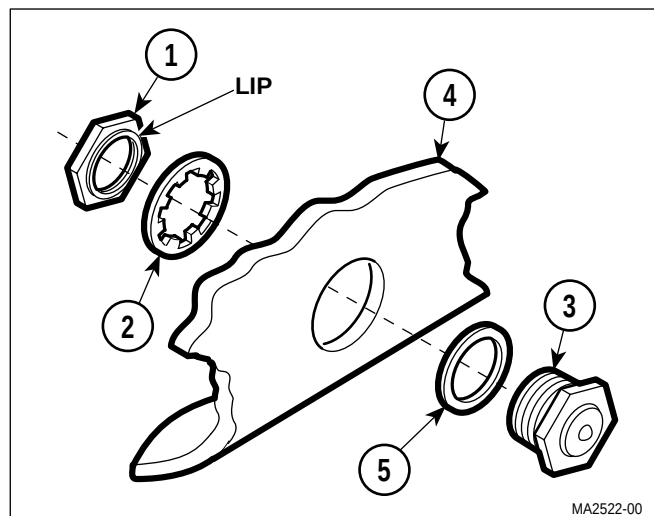

Figure 4-10. Diaphragm Cup Removal / Installation
- (1) Remove cover assembly (Refer to para 4.2).
- (2) Remove wire rack and trays (Refer to para 4.17).
- (3) Remove temperature regulator relay (Refer to para 4.8).
- (4) Remove nut (1, Figure 4-10), lockwasher (2), and diaphragm cup (3) from chamber wall (4).
- (5) Remove gasket (5) from diaphragm cup (3).